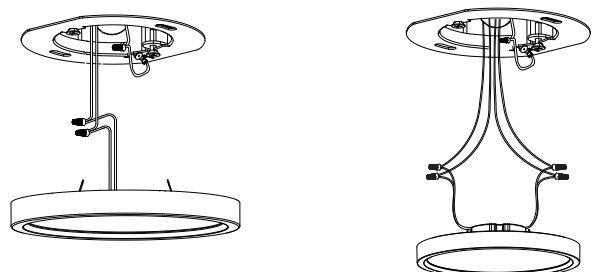

Fig. 3
4. Use wire connectors to connect the wires according to the wiring diagram above. (Fig. 3)